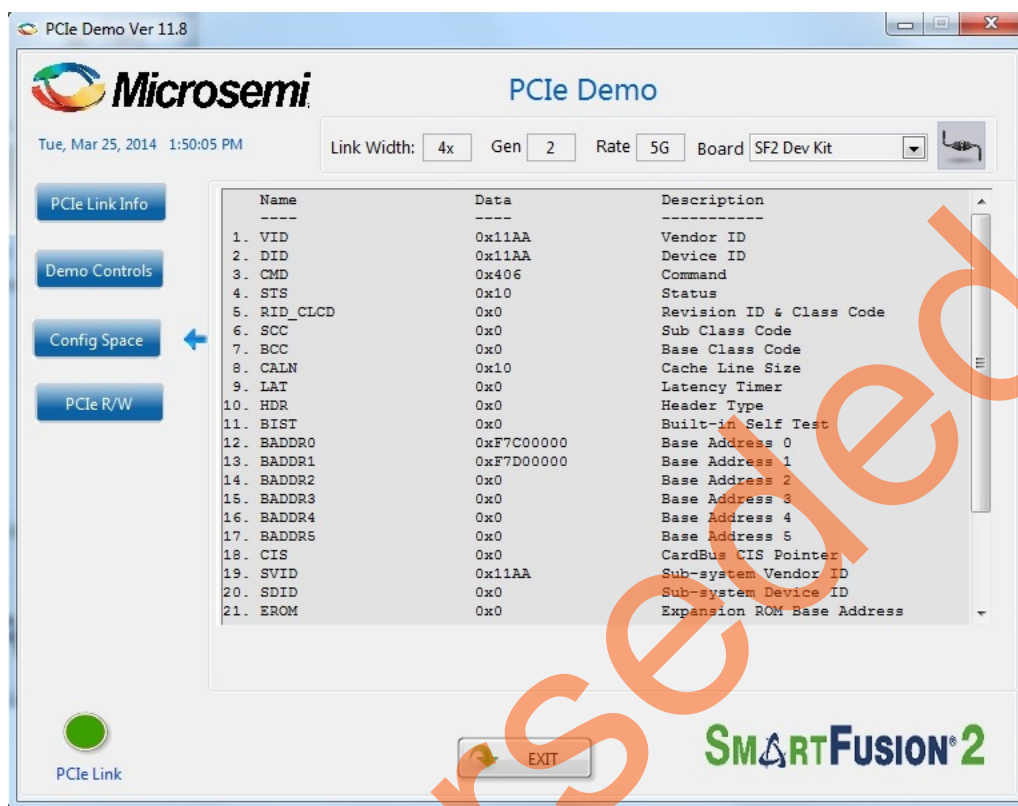

Figure 67 • Configuration Space
12. Click **Config Space** to read details about the PCIe configuration space. Figure 67 shows the PCIe configuration space.